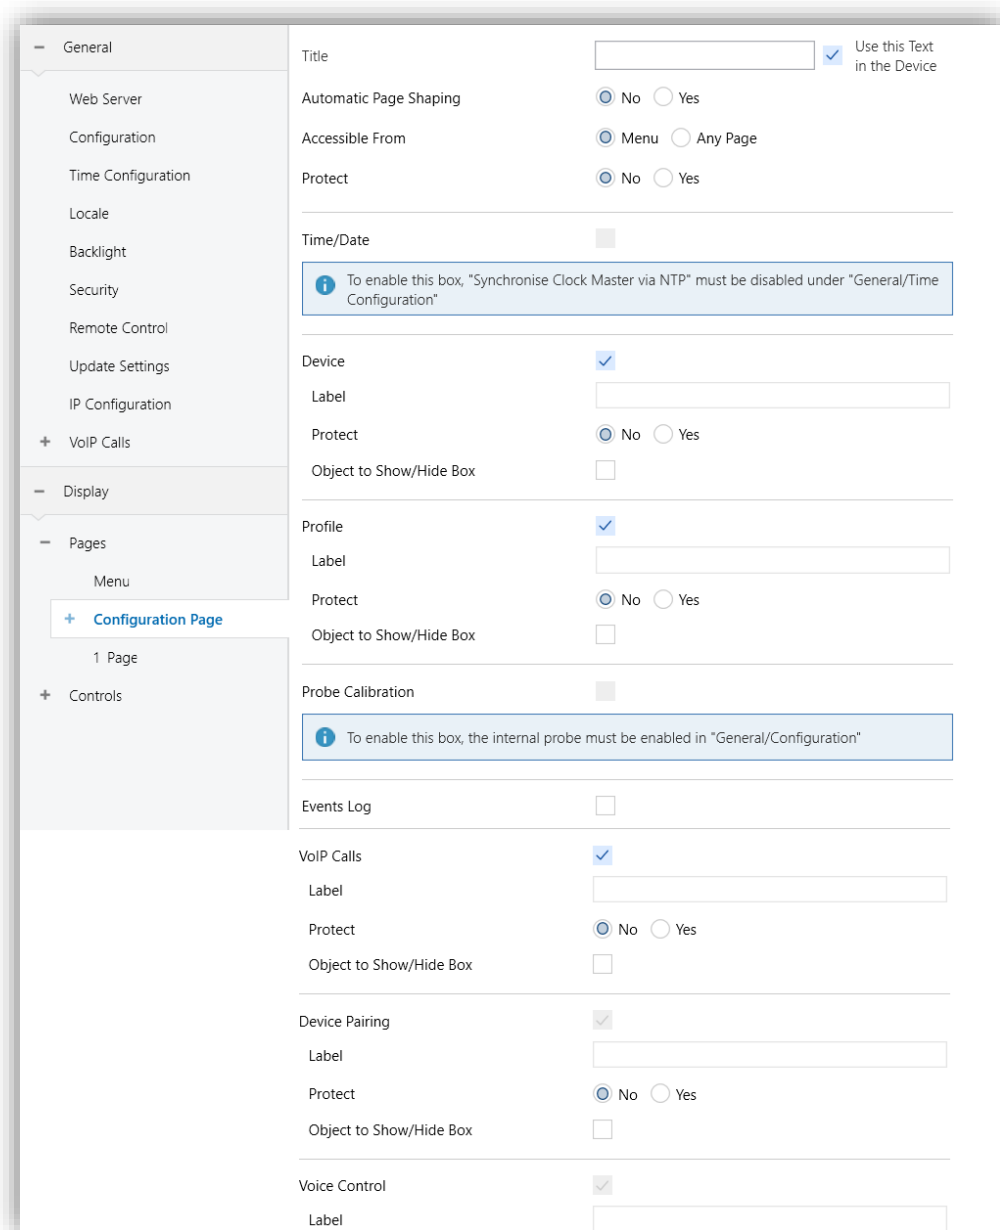

Figure 57. Configuration tab
- **Title:** text field that identifies the configuration page. In addition, this field allows changing the name of the tab in ETS left menu, as shown in the Figure 57.